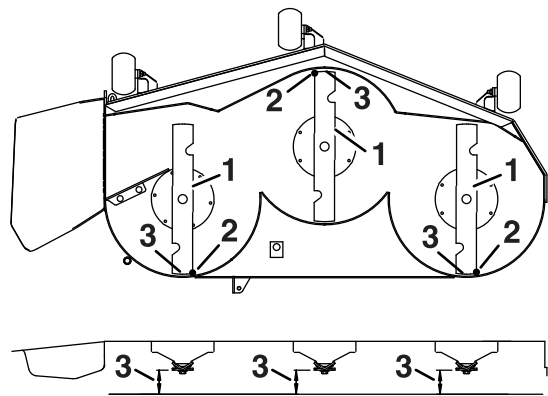

Figure 85
7. Check the front-to-rear blade level (Figure 85). Ensure the front blade tip is lower than the rear blade tip as shown in the block height and rake table. If it needs adjustment, continue with this procedure.